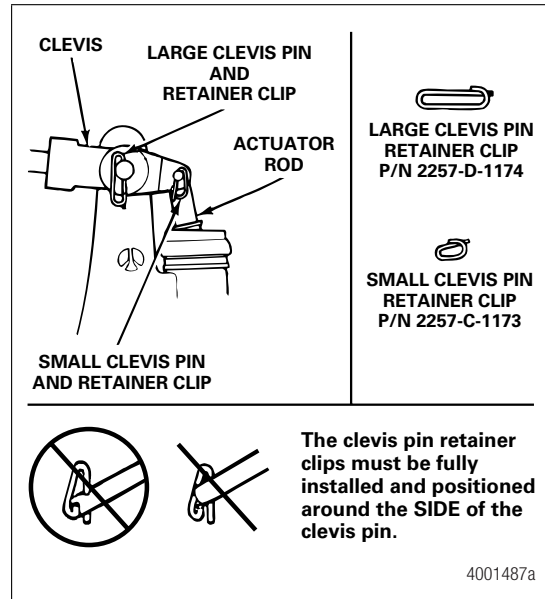

Figure 5.8
2. Install new clevis pin retainer clips or cotter pins to secure the clevis pins. Retainer clips must be fully installed and positioned around the side of the clevis pin. Figure 5.8.